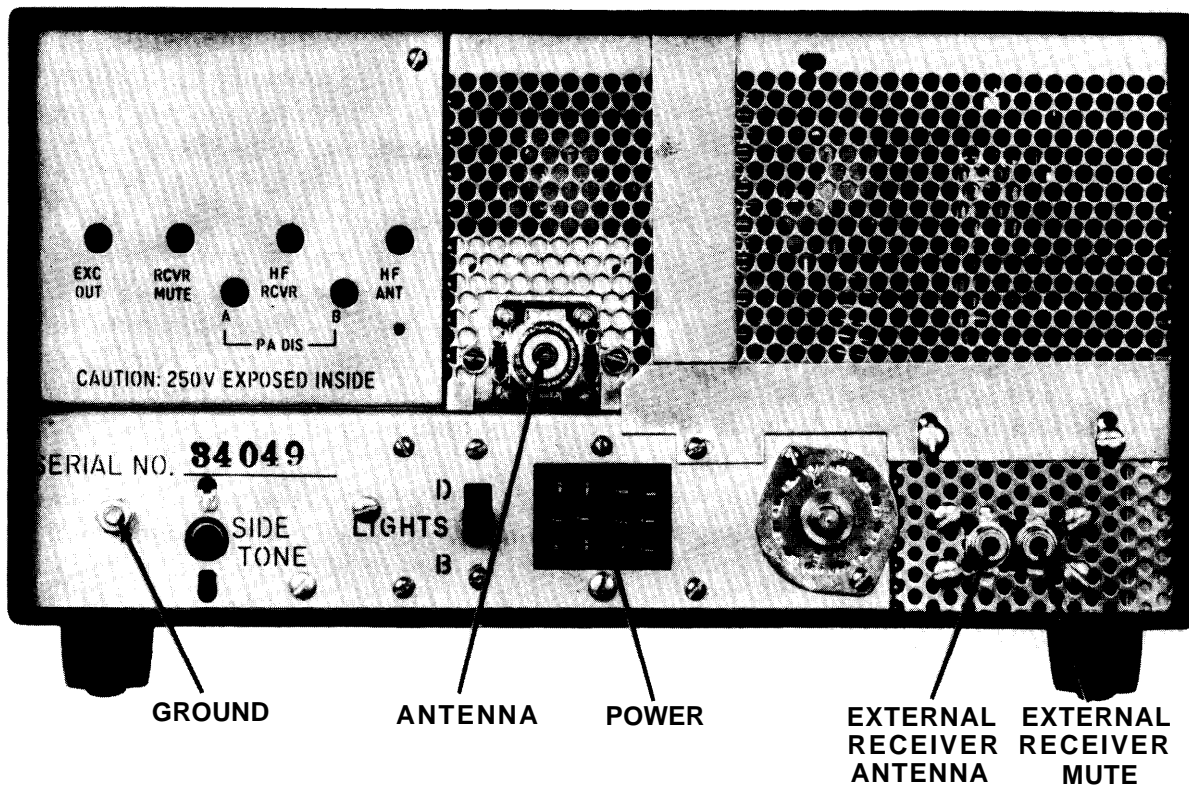
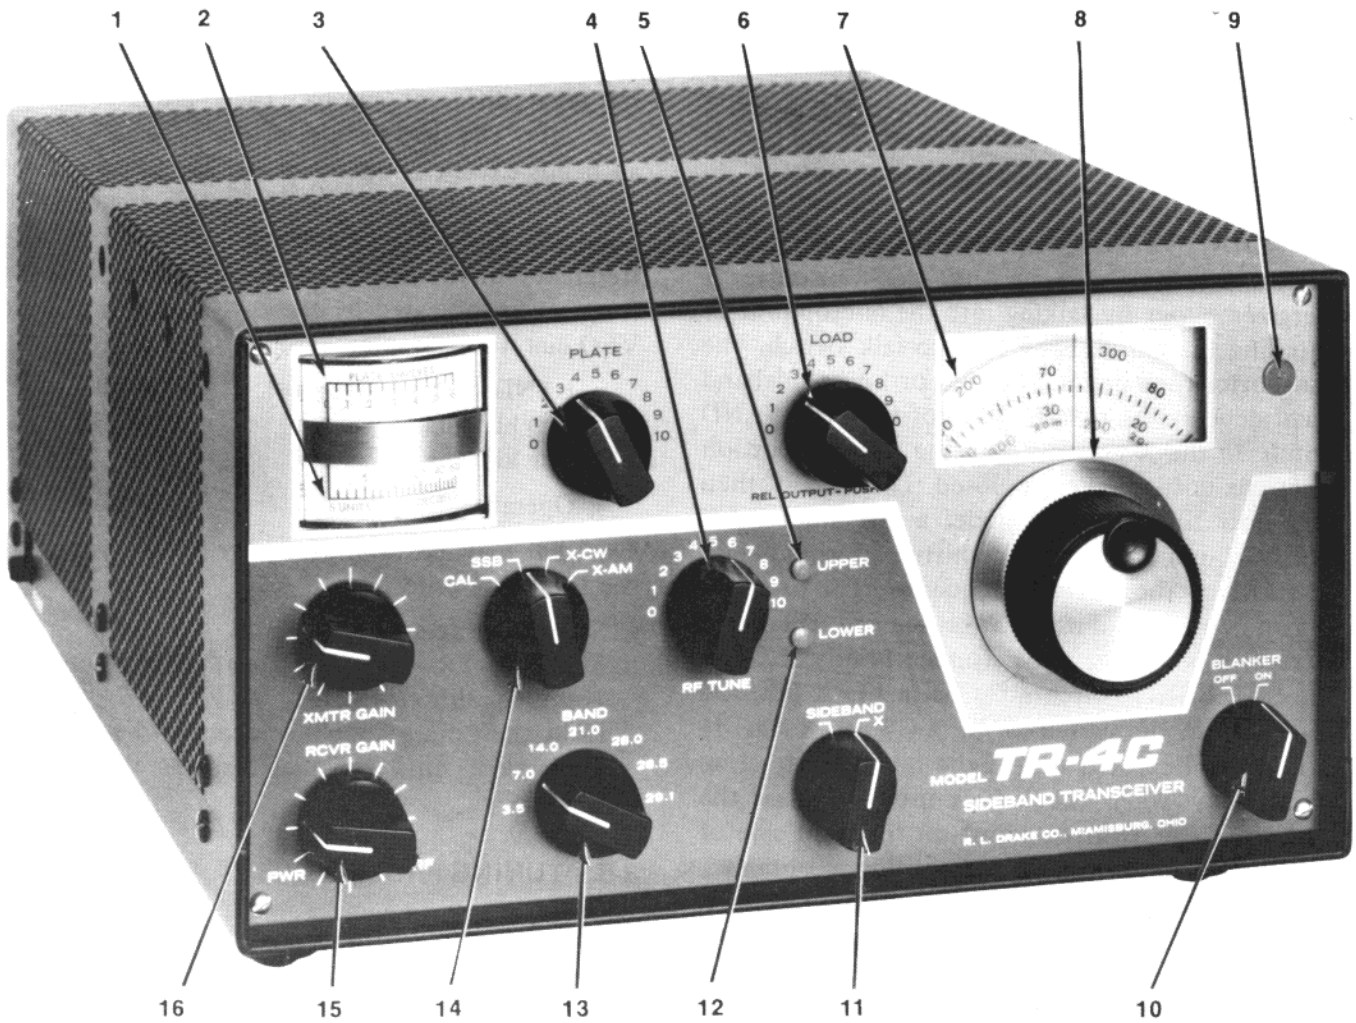

Figure 2-2. Rear Chassis Connectors
Figure 3-1. Front Panel Controls
**2-4. POWER REQUIREMENTS.** Refer to figure 2-2 for rear chassis connector identification. The TR-4C may be installed in any vehicle with a 12 volt dc negative ground system. An R. L. Drake Model DC-4 Power Supply is required for a mobile installation. The recommended location for the DC-4 is on the passenger side of the firewall. Refer to figure 2-3 for the electrical connections required.
Figure 3-1 illustrates and describes all front panel controls and indicators on the TR-4C Transceiver. Controls and connectors located on the rear and sides of the unit are described under "other controls" below. Rear chassis connectors are identified in figure 2-2.
Rear Chassis (Refer to figure 2-2).